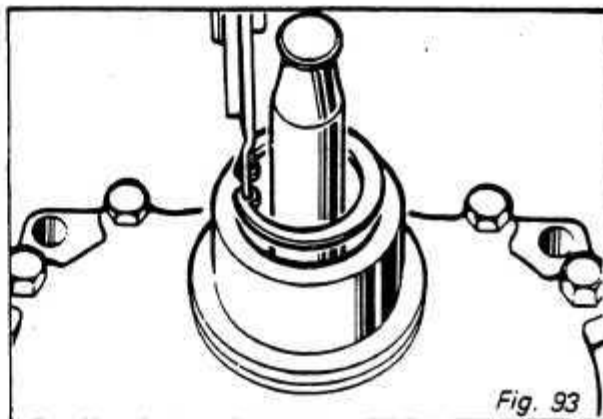

Fig. 93
Step 7 — Re-install snap ring. Beveled edge lies outward (away) from compressor. Flat side lies toward compressor. It may be necessary to lightly tap the snap ring to securely position it in its groove. *Fig. 93*